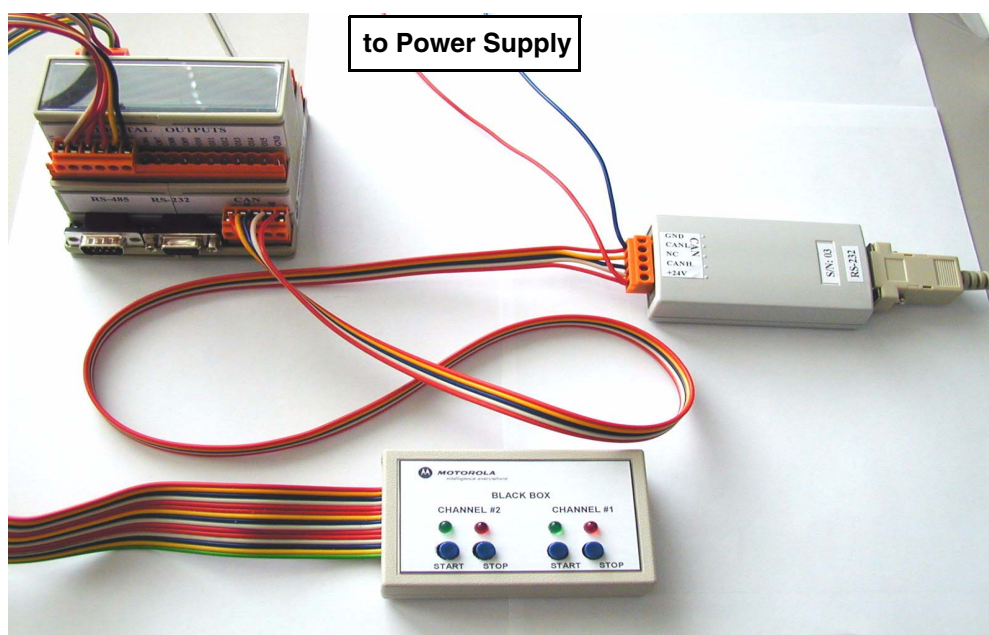

Figure 2-5. Demo Connection
4. Connect the 24V Power Supply. All of the indication LEDs on the Module and the Black Box must flash. The completed Demo connection is shown in Figure 2-5.